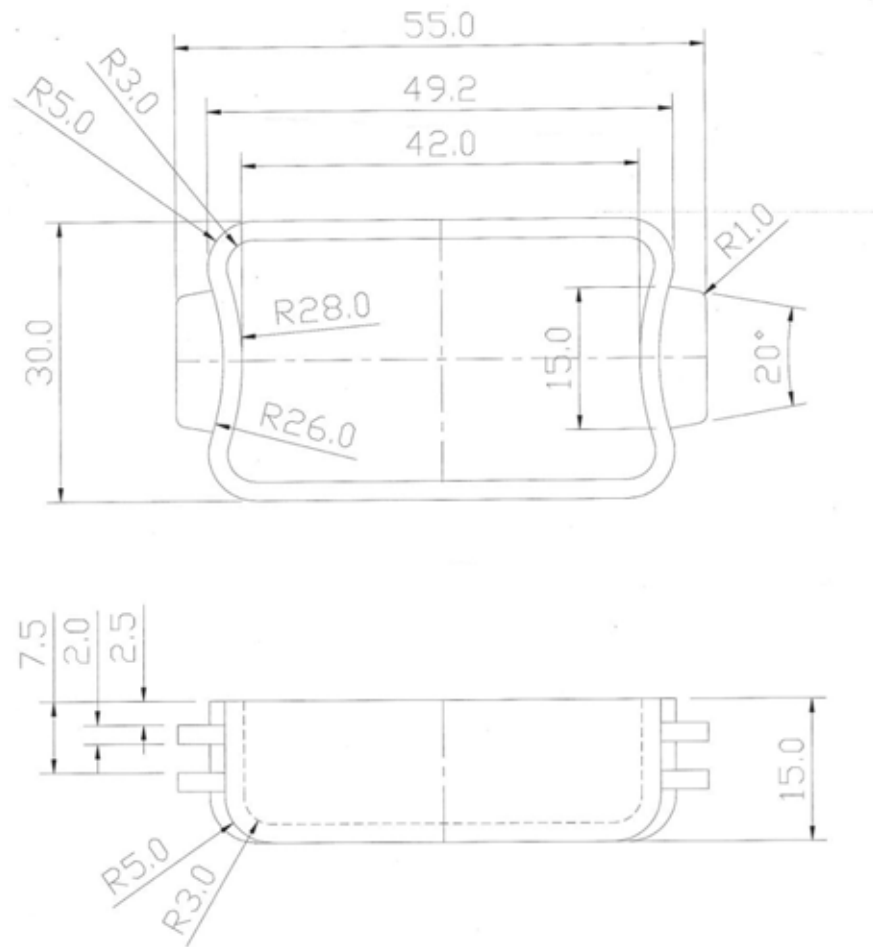

Fig. 2
Q. 8 Design a 2 cavity mold for the component shown in figure 2. Draw at least 2 views with one sectional view to bring out the details of the feed, cooling and ejection system. Illustrate the relevant design calculations